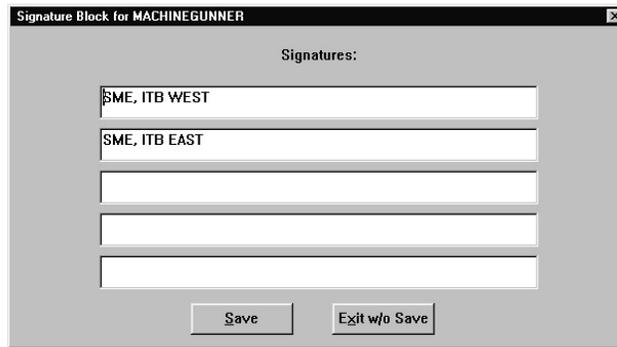

Figure 6-107. Signature Block
- From the Maintenance drop-down menu, choose Signature Block. The Signature Block dialog box (Figure 6-107) opens.